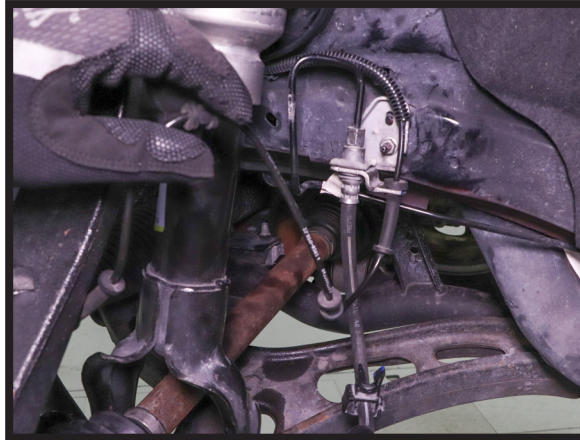

FIGURE 7
7. CLEAR SPEED SENSOR WIRE FROM BRAKE LINE PATH. (FIGURE 7)